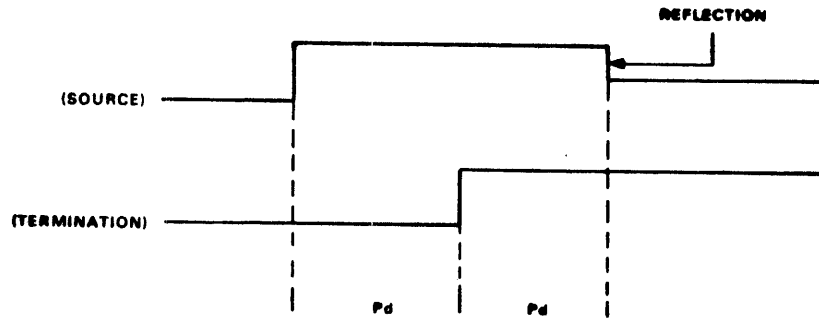

Figure 5. Impedance (Low Resistance) Mismatch Example
Essentially the same situation occurs when the termination resistor is smaller than the characteristic impedance of the line. If resistance (R) is less than impedance (Z), there will be a mismatch and this will also be reflected back to the source (see Figure 5).